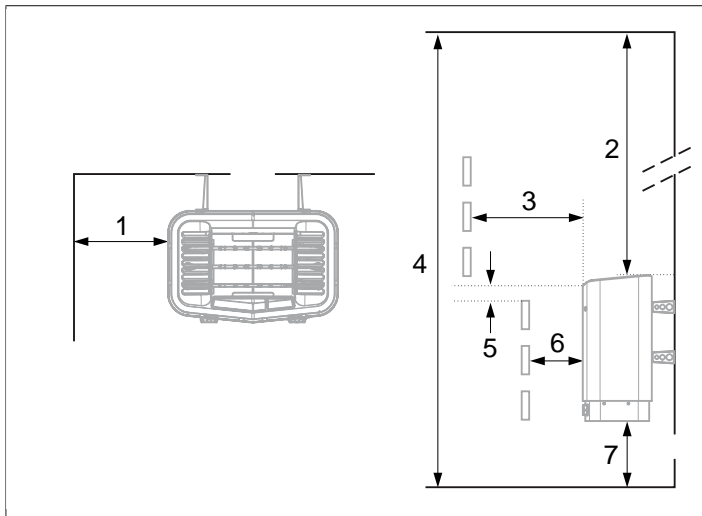

Figure 2: Positioning the heater - normal installation
- at a safe distance from the floor, side walls and interior fittings (see **Figure 2**, Page 2).